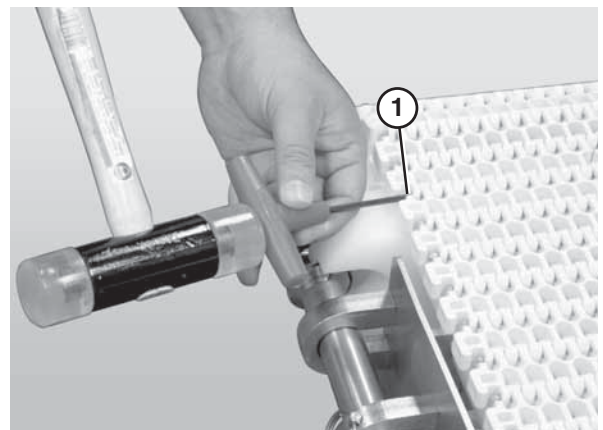

Figure 65
2. Use a punch and hammer to push the belt rod out by striking the rod end opposite the retaining head (Figure 65, item 1).